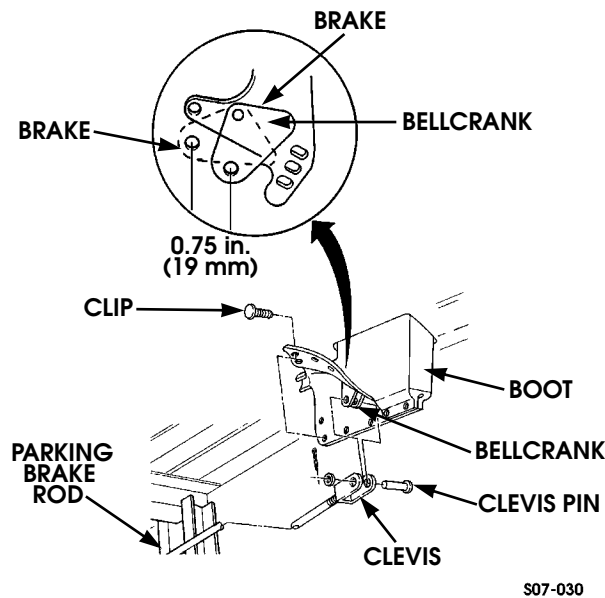

Figure 7-38: Parking Brake Adjustment
6. Install brake clevis on lever with clevis pin, washer, and cotter pin (Figure 7-38).
2. Remove six clips and spread boot to allow access to cotter pin (Figure 7-38).
9. Install six clips in boot (Figure 7-38)